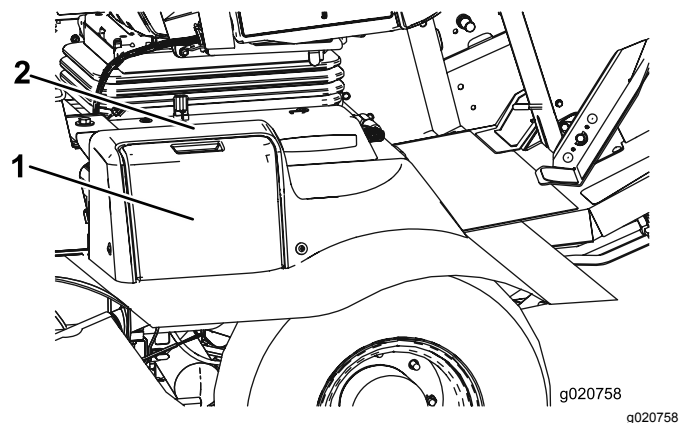

Figure 75
1. Open the battery cover on the side of the shroud (Figure 75).
**Note:** Press down on the flat surface above the battery cover to ease the removal of the cover (Figure 75).